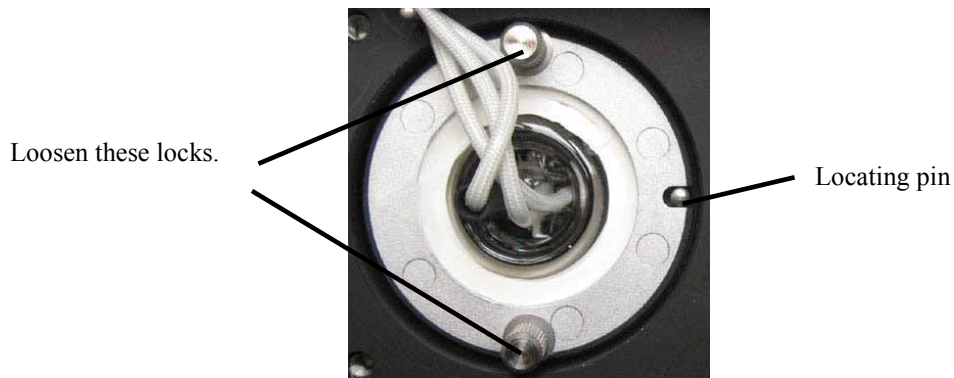

Fig. 33: Deuterium lamp screws
- Align the (new) lamp with the locating pin (→ Fig. 33), and then gently push the lamp into the lamp housing. Be careful not to tilt the lamp and be sure that the lamp flange is in a level position with the lamp housing. When the lamp is seated, tighten the screws in the flange.